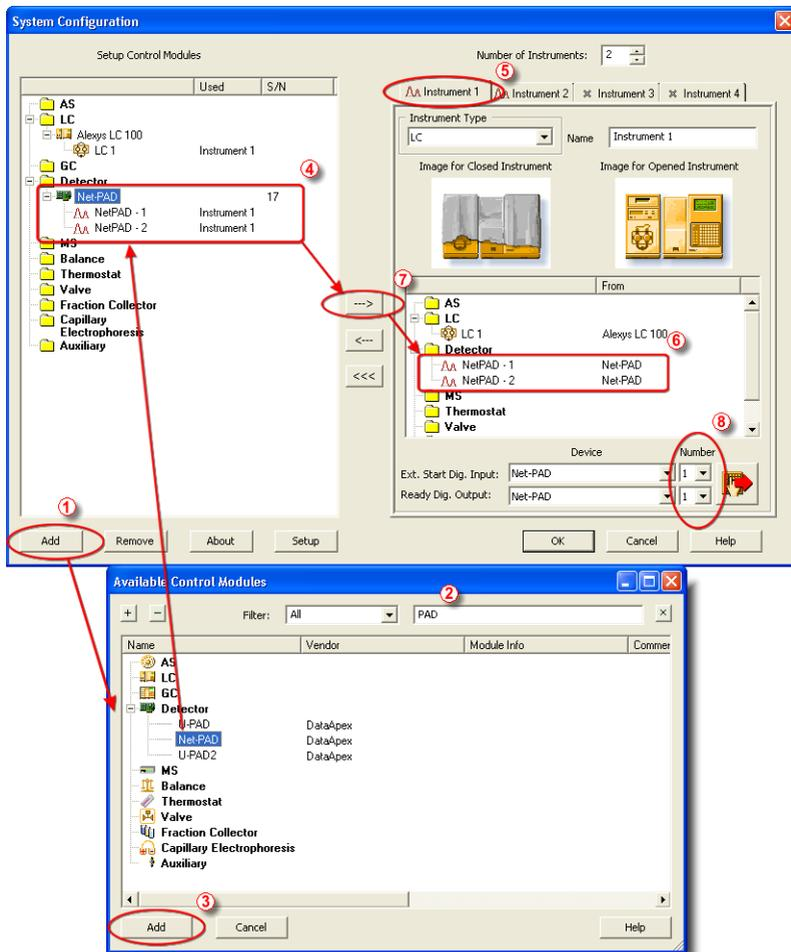

Fig. 8: System Configuration
- Press the *Add* button (1) (See Fig. 8 on pg. 12.) to invoke the *Available Control*